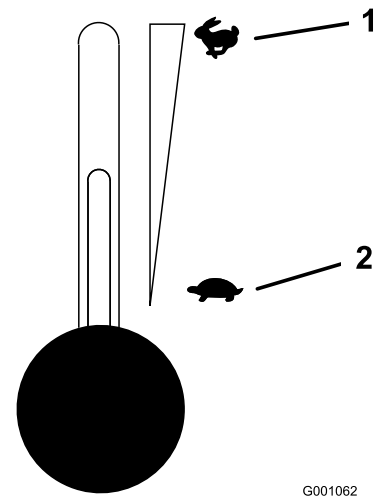

Figure 16
5. Move the throttle control to the Fast position before starting a cold engine (Figure 16).
2. Move the throttle lever midway between the slow and fast positions (Figure 16).